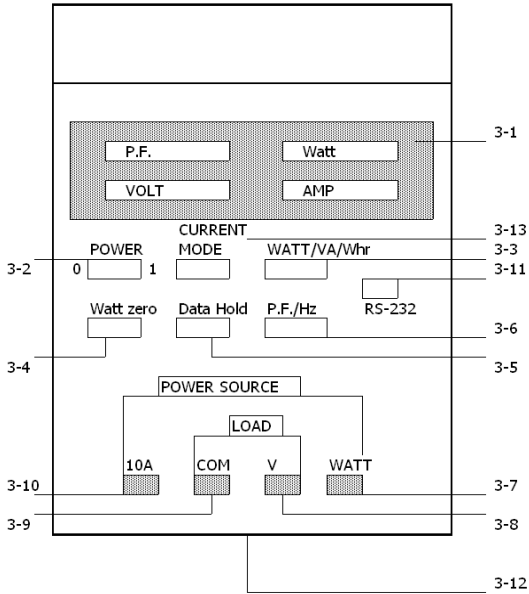

Fig. 1
1) Slide the " Power switch " (3-2, Fig. 1) to " On " position.
2) Push the " WATT/VA/Whr Button " (3-3, Fig. 1) until the unit of the up right LCD show " Watt ".
5) Push the " WATT Zero Button " (3-4, Fig. 1) once, then the " Watt display " will show " 0 "
The " LCD display " (3-1, Fig. 1) will show the Watt, Voltage, Current, COS (Power Factor) at the same time.
During the Watt measurement, push the " COS /Hz Button (3-6, Fig. 1) once, will show Line frequency value instead of the COS value.
All the measuring procedures are same as the above " 5-1 AC Watt/V/A/PF/Hz Measurement " except should push the " WATT/VA/Whr Button " (3-3, Fig. 1) once until the unit of the up right LCD show " VA ". Then the display will show the VA, voltage, current, Hz at the same time.
All the measuring procedures are same as the above " 5-1 AC Watt/V/A/PF/Hz Measurement " except should push the " WATT/VA/Whr Button " (3-3, Fig. 1) twice, then the LCD show the Whr value along with the elapsed time (Hour & Minute).
- * The display of Whr measurement will stop (hold) when push the " Data Hold Button " (3-5, Fig. 1) once. Push the " Data Hold Button " once again will continue the Whr function.*
1) Select the " Power switch " (3-2, Fig. 1) to " On " position.
- a. Connect red test lead to " V Terminal " (3-8, Fig. 1) and black test lead to " COM Terminal " (3-9, Fig. 1).
- a. Connect red test lead to " 10 A Terminal " (3-10, Fig. 1) and black test lead to " COM Terminal " (3-9, Fig. 1).
- 2) Select the CT type, 100/5A or 1000/5A by push the " Current Mode Button " (3-13, Fig. 1). The LCD will show the marker " CT 100/5A ", " CT 1000/5A " when the CT type is selected.
During the measurement, Push the " Data Hold Button " (3-5, Fig. 1) will hold the display values & LCD will show the " HOLD " marker.
- 2) Loose the screw, slide the Battery Cover (3-12, Fig. 1), away from the instrument and remove the batteries.
The instrument features an RS232 output via 3.5 mm Terminal (3-11, Fig. 1).